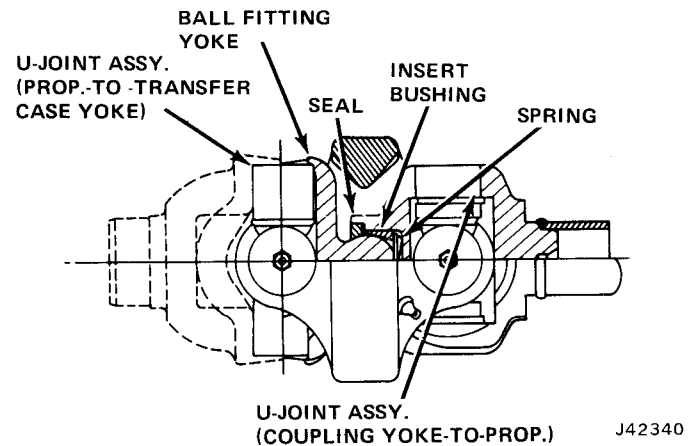

Fig. 10-79 Double Cardan Joint
**NOTE:** Repair of single and double Cardan joints are similar except for the center ball and socket in the double Cardan joint (fig. 10-79). The rollers and bushings are replaceable once the joint is disassembled.